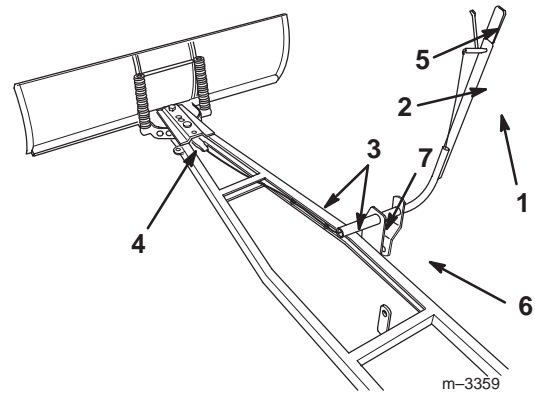

Figure 6
3. Hold the control handle (Fig. 6) in approximately the 9:00 o'clock position, thread the cable through the handle mount in the frame.
7. Thread the cable through the two eyelets on the side of the frame, then route it as shown in Figure 6.
8. Insert the cable into the cable bracket, then attach the cable bracket to the angle pin at the blade assembly (Fig. 6 & 7) with a 1-1/4 in. cotter pin. Put the cotter pin through the hole that removes the most slack from the cable. Bend the ends of the cotter pin to retain the cable bracket.